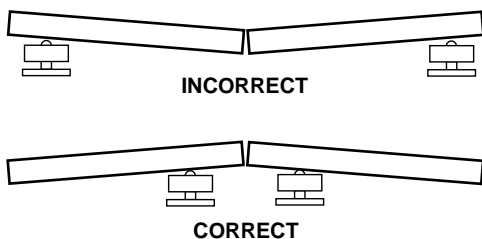

Figure 6 – Position Pipe Supports So That Cutter Wheel Is Not Pinched By The Pipe
1. As shown in *Figure 6*, the cutter and pipe supports must be positioned so that the pipe sections have a tendency to fall away from the cutter blade as the pipe is cut. If the cutter wheel is pinched by the pipe, it will damage the cutter wheel.